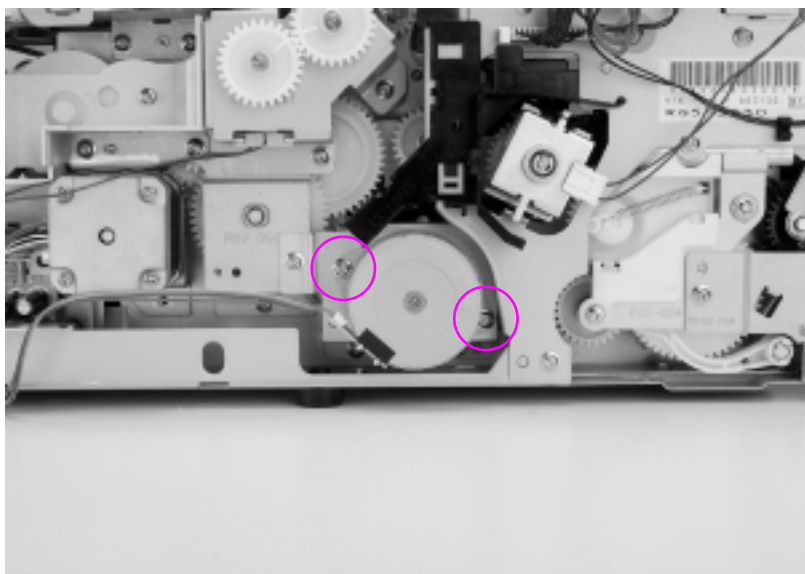

Figure 6-45 Paper path motor removal and replacement
- 4 Remove the two screws on both sides of the paper path motor shown in Figure 6-45.